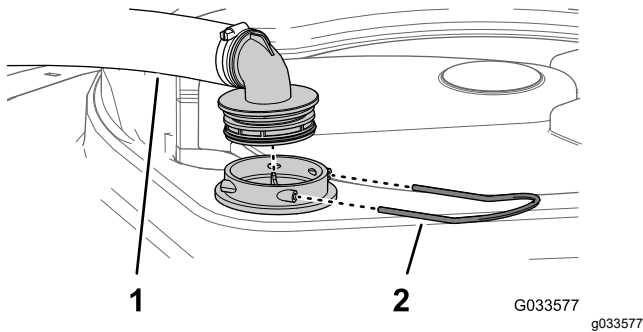

Figure 50
2. At the top of the sprayer tank, remove the retainer that secures the hose fitting attached to the large hose from the filter housing (Figure 50).
3. Remove the hose and hose fitting from the filter housing (Figure 50).